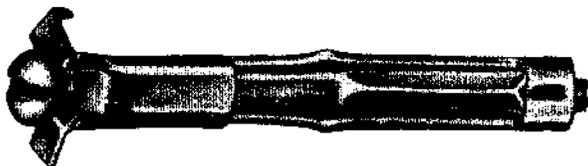

Fig. 31 – Diamond Anchor
- A wrench is not furnished with the Diamond anchor, Fig. 31.
2-1/4 (Fig. 31)